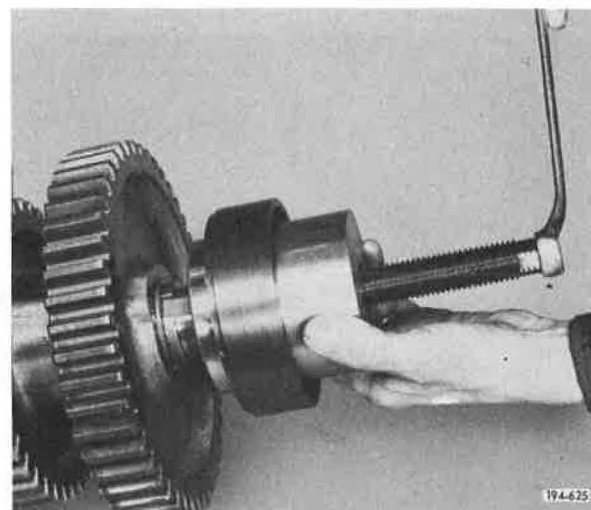

Figure 5-312. Removing Bearing
2. Remove front countershaft front bearing using tool S593C. See Figure 5-312.